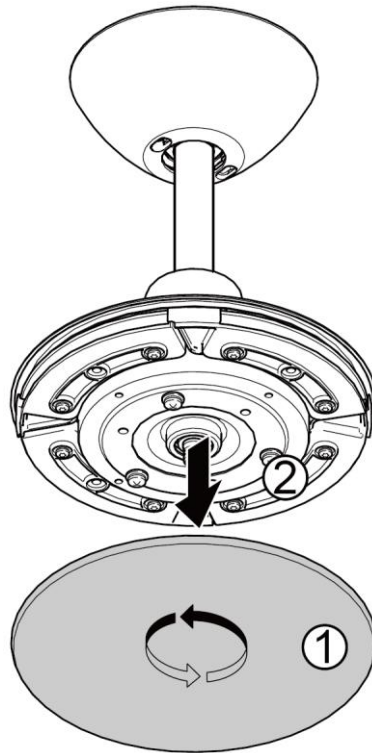

Fig. 5.1
1. Twist the lamp base plate anti-clockwise and remove it from the motor assembly. (Fig.5.1)